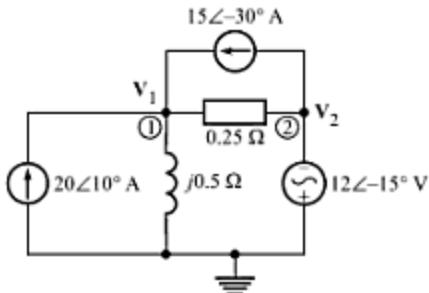

Fig. C-79
- C-132.** Find the node voltages in the circuit shown in Fig. C-79. [Ans. $-3.59\angle -5^\circ$ V, $-12\angle -14^\circ$ V]